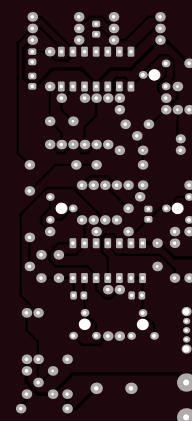

Figure 2: PCB design for the Funny Bird project. The board is designed as a desktop ornament for e-techies to show off.
Basically, everything to know about building up these Elektor Classics kits is found in the “One-Armed Bandit” article. Although the Funny Bird PCB is larger than the other two Classics published so far (One-Armed Bandit and US-Style Siren [1]), it’s all plain sailing, as everything is contained in a kit you can buy from the Elektor Store. No worries, you’ll be soldering through-hole (TH) parts only, no tiny SMD parts which fly off at a whiff of air and keep disappearing in the vacuum cleaner. **Figure 2** shows the artistically styled PCB layout.